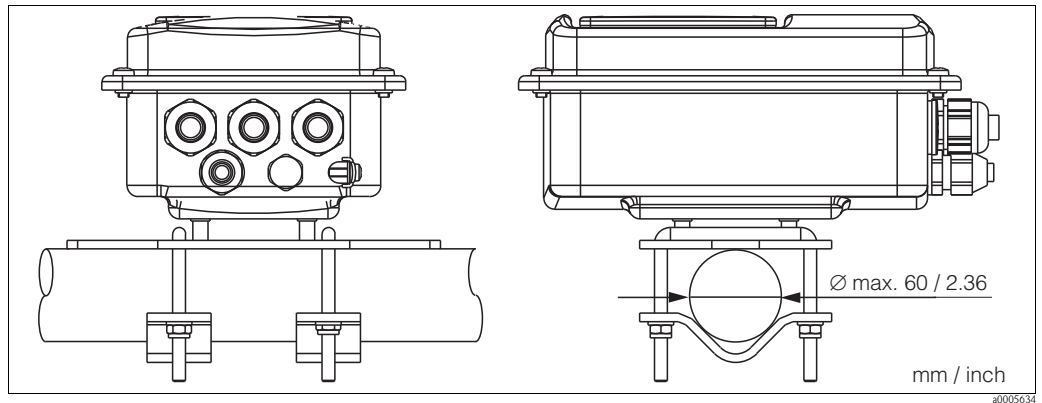

Fig. 16: Post mounting of CLD134 separate version
3. Use the brackets to install the Smartec S on the post or pipe (Fig. 16).